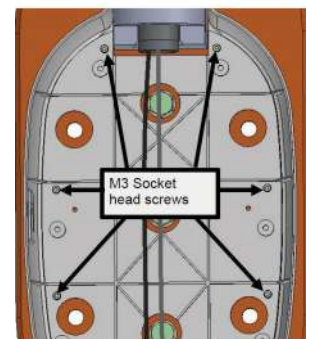

Figure 98
- Remove the old base unit rear cover by removing 6 no's of M3x6 HSHC screws and M3 plain washers at the locations shown in Figure 98 using 2.5mm allen key.
- Fix the new base unit rear cover by fixing 6 no's of M3x6 HSHC screws at the locations shown in Figure 98 using 2.5 mm allen key.